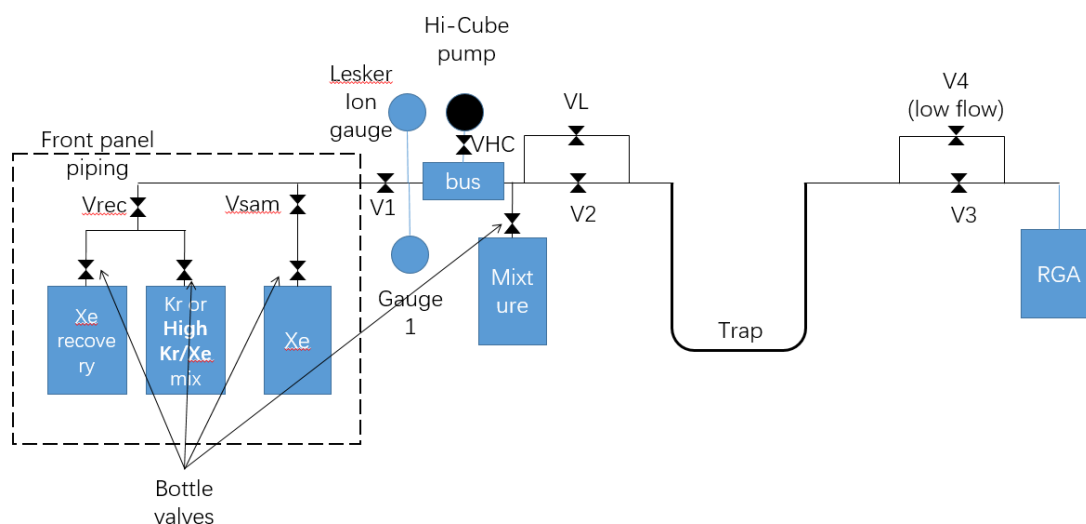

Fig. 1 Schema of the Xe purity system. V1 closes the connection between the front piping and the bus.
The valve nomenclature used below is displayed in Fig. 1. For the physical locations, you can refer to Figs 3-5. V1 is usually left open, unless it is necessary to completely isolate the main system from the front piping. If V1 is closed, you won't be able to inject gas into the system. Vsam is the sampling valve, ***not to be confused*** with the sample bottle valve. Figs 1 and 3 should make this clear. Valves on the bottles do not have specific names.
- Check the configuration: the valve of the HiCube pump (VHC in the schema of Fig. 1 and in Fig. 4) and valves Vsam, Vrec, V1, V3 and V4 should be open, while V2 and VL (leak valve)